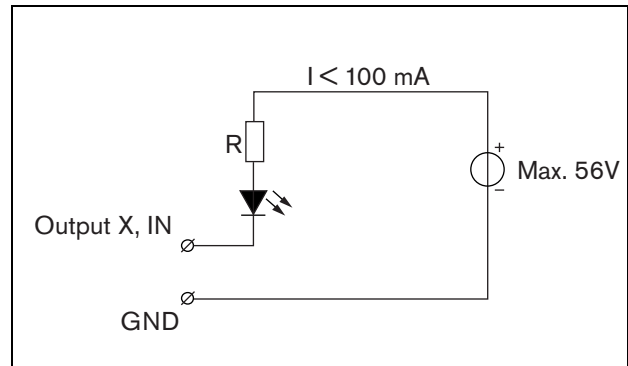

figure 21.10: Externally powered LED
- Externally powered lamp or LED. See figure 21.10 for a connection diagram.
The value of resistor R in figure 21.10 depends on the voltage of the external source, the forward voltage of the LED and the current flowing through the LED: